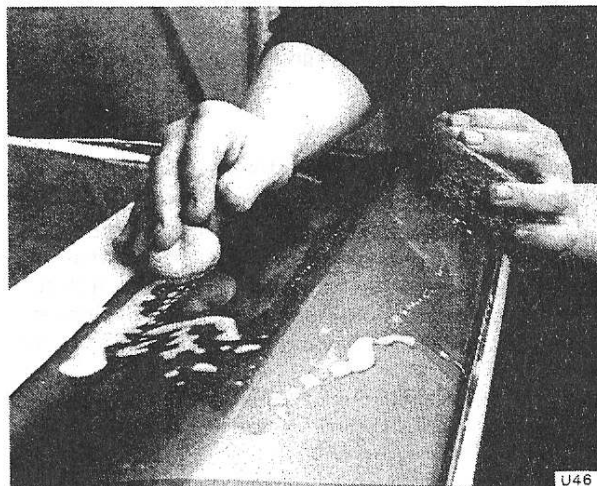

Fig. S50 Hand flatting a curved area using a soft pad
1. Hand flatting should always be used on areas with curves or complex contours. Use a soft cloth pad inside wet or dry abrasive paper (see Fig. S50).